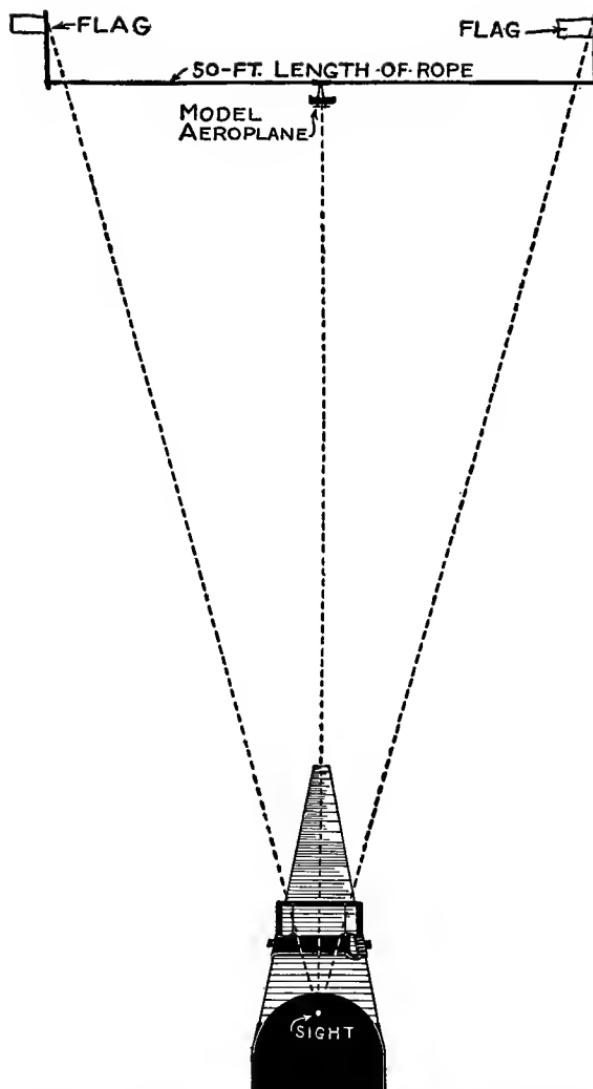

FIG. 465.—Diagram Showing how the Distances of Model Flights are Determined by the Wells Distance-Measuring Device.
**The Wells Distance Measuring Instrument** in use by its inventor, while Figs. 456 to 464 show working-drawings of its construction, and Fig. 465 shows a diagram of how a measurement is taken with it. You will notice that the instrument consists of a *graduated stick*, having a metal *slide* on top that contains *hair-lines*, and a *sight plate* on one
**To Take a Measurement** with the instrument, two officials of the meet must follow the model aeroplane, and drive the ends of the two flags into the ground on a line with the model's landing position (Fig. 465). The connecting rope
The measuring official should then sight through the sight plate on the end of the graduated stick of the instrument (Fig. 465), and slide the hair-line slide back and forth along the stick until the hair-lines coincide with the flag-sticks, or, in other words, until the sight hole, the hair-lines, and the flag-sticks are in straight lines, as indicated by dotted lines in Fig. 465. Now, when the slide has been so adjusted, the reading at the front end of the slide will show the measurement of the distance of your model aeroplane from the starting point. If the slide is not set on a division line of the graduated stick, take the next division mark back of it, and add to this the additional number of feet shown upon the small scale on the slide.